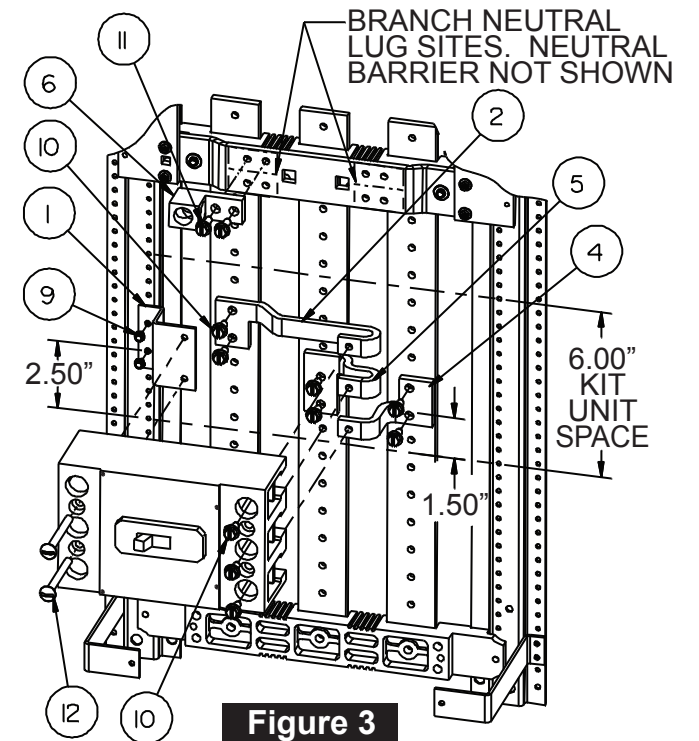

Figure 3
6. Refer to Figure 3: Position the breaker support (Item 1) on the base rail in the center of the 6" kit unit space as shown. Fasten it to the base rail with two #8-32 screws (Item 9). Fasten the long outer connector (Item 2), the center connector (Item 5) & the Type B short outer connector (Item 4) to the panel bus with six 1/4"-20 x 5/8" screws (Item 10).